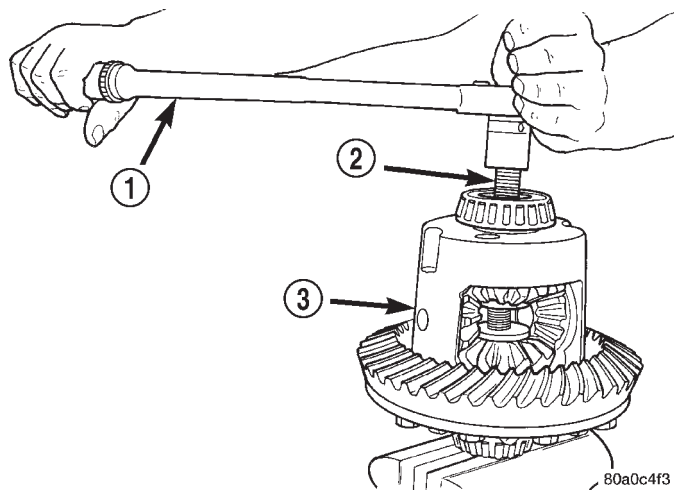

Fig. 44 Tighten Belleville Spring Compressor Tool
(9) Tighten forcing screw tool 122 N·m (90 ft. lbs.) maximum to compress Belleville springs in clutch packs (Fig. 44).